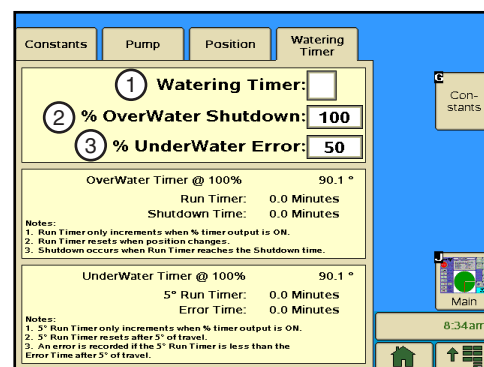

Figure 39-1 1. Watering Timer Checkbox
1. Push **Setup, Constants, Watering Timer** to display the Watering Timer screen. Refer to Figure 39-1.
1. To set the % Overwater Shutdown, push **Setup, Constants, Watering Timer** to display the Watering Timer screen. Refer to Figure 39-1.
1. To set the % Underwater Error, push **Setup, Constants, and Watering Timer** to display the Watering Timer screen. Refer to Figure 39-1.